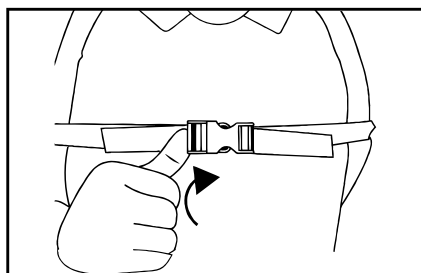
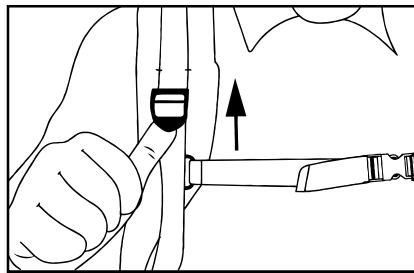

FIGURE 13
FIGURE 14
6.1.3 Lift the back tabs of the buckles to loosen the backpack straps. **FIGURE 13. FIGURE 14.**